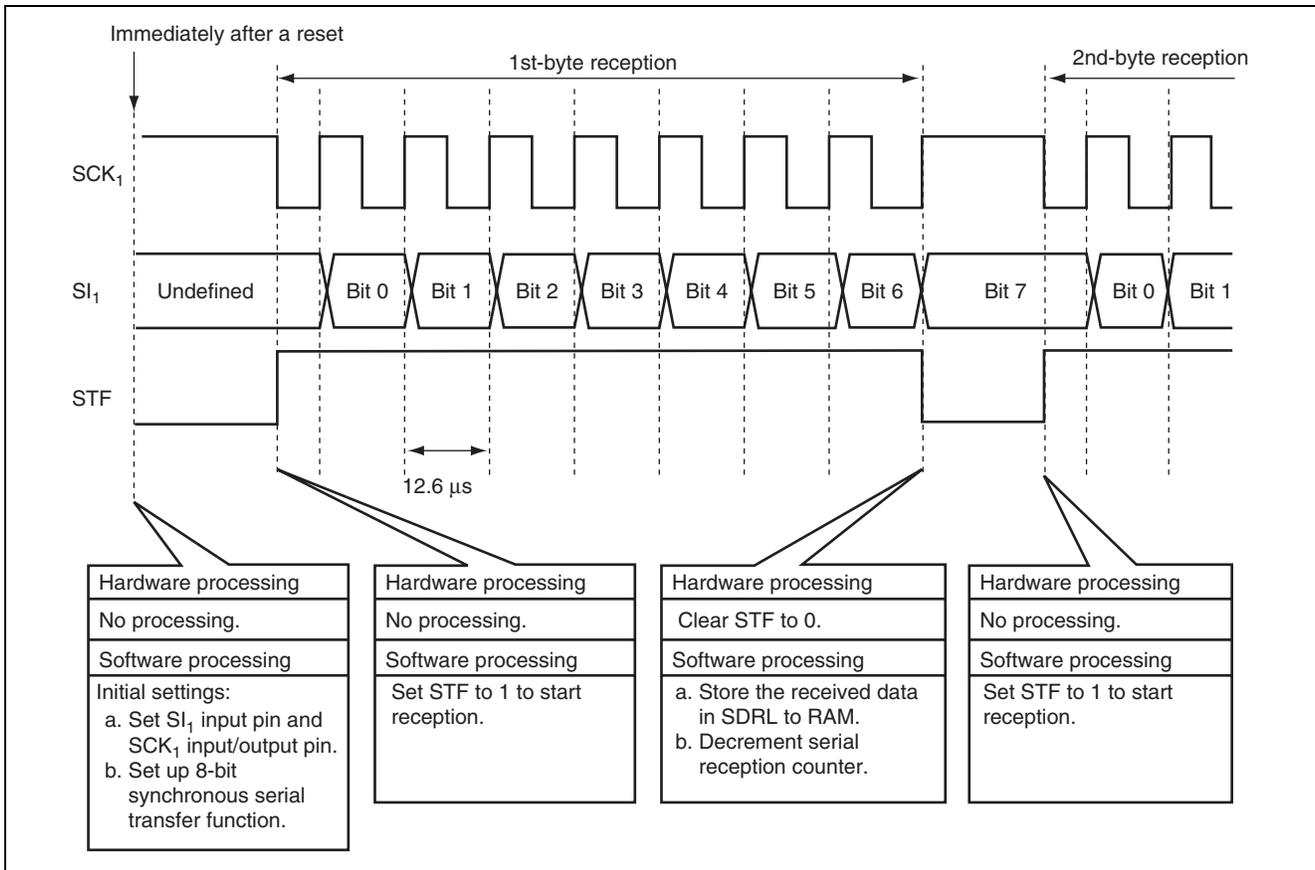

Figure 3.1 Operation Principle of Serial Data Reception in Synchronous Mode
1. Figure 3.1 shows the principle of operation. Serial data reception is performed in synchronous mode with the hardware and software processing shown in the figure.